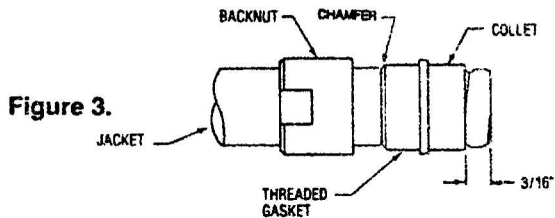

Figure 3.
- Apply a light film of grease to the threaded gasket then screw the gasket onto the cable up to the trimmed jacket. The chamfered end of the threaded gasket must face the backnut. Thread the collet onto the cable to the 3/16 inch dimension shown in Figure 3.